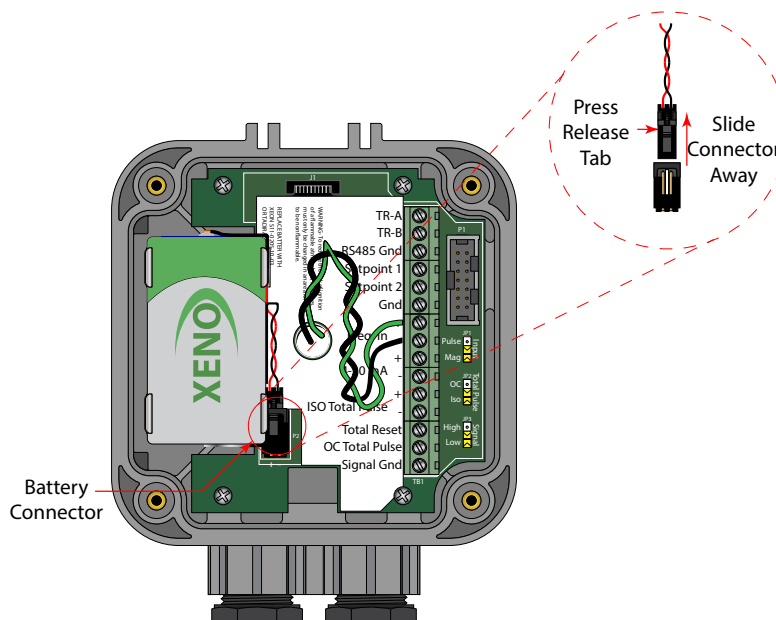

Figure 14: Battery connection release
2. Press the tab on the battery connector to release it from the circuit board (see *Figure 14*).